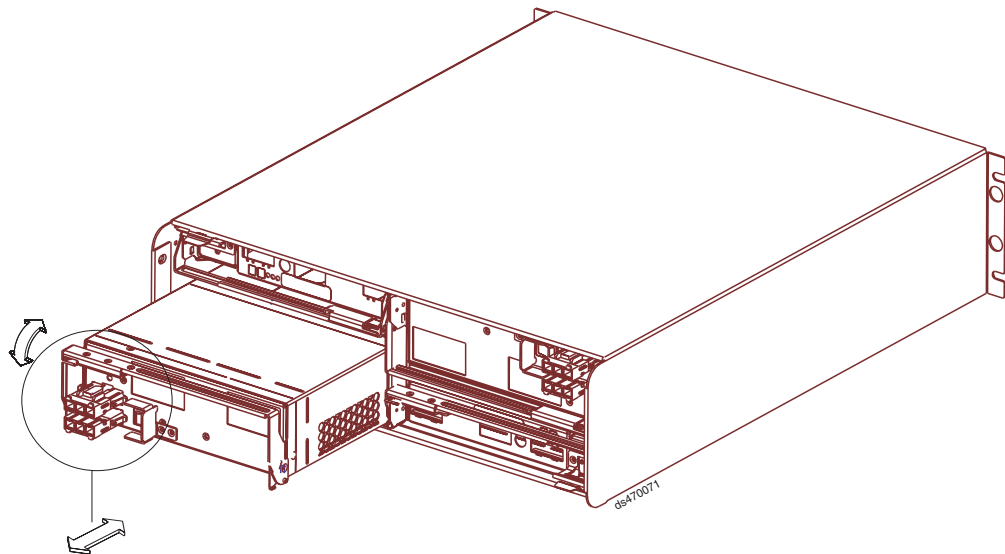

Figure 61. Replacing a DC power supply and fan unit
11. Slowly pull the lever away from the chassis to remove the DC power supply and fan unit, as shown in Figure 61 on page 122.